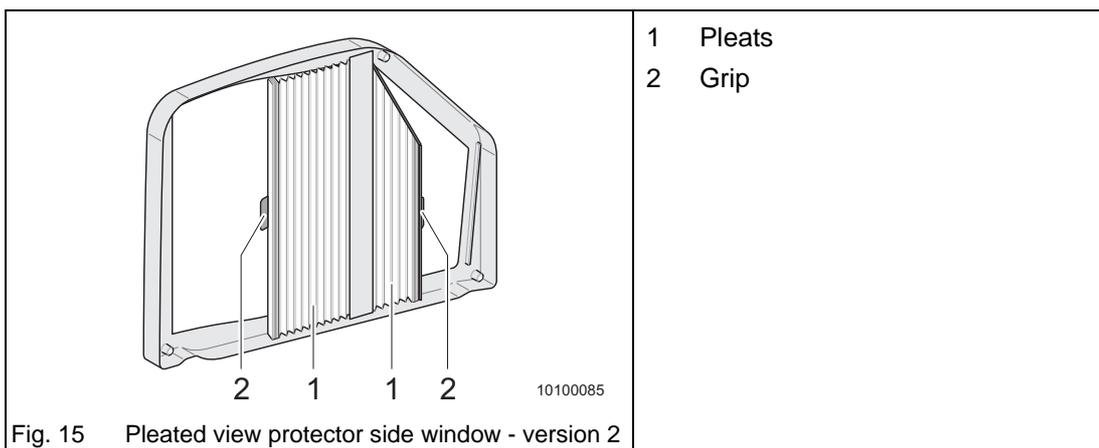

Fig. 15 Pleated view protector side window - version 2
The pleated view protectors (Fig. 15/1) are integrated in the right and left door frames in the driver's cab.
- ➔ Pull the pleats firmly on both sides on the grip (Fig. 15/2).
- ➔ Slide the grip (Fig. 15/2) in arrow direction and lock it in on the opposite side.